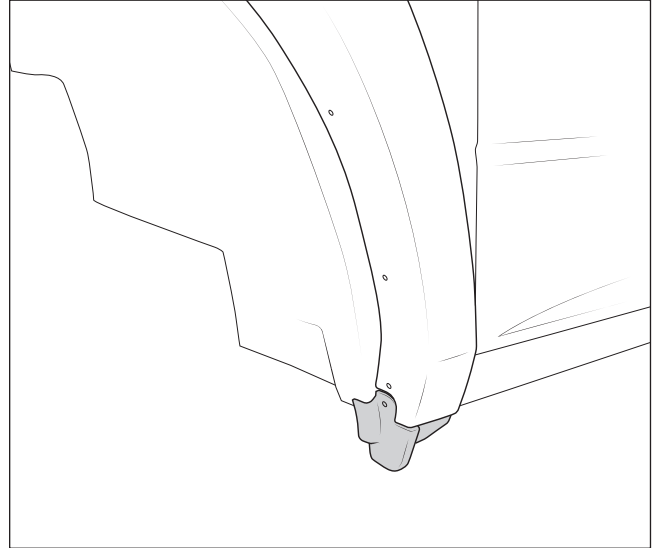

Figure 2
4. Remove the plastic guards shown and discard (fig. 2).